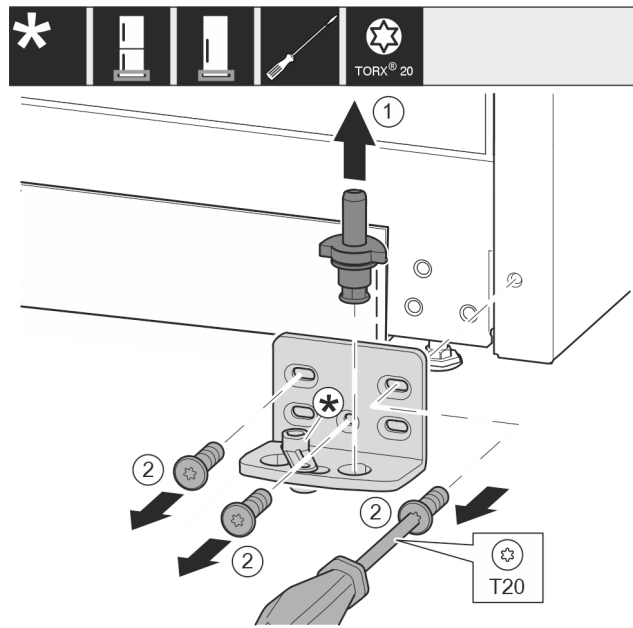

Fig. 14
- ▶ Pull the bearing bolt Fig. 14 (1) out upwards completely.
- ▶ Use screwdriver to unscrew the screws Fig. 14 (2) and remove the swap bearing block.